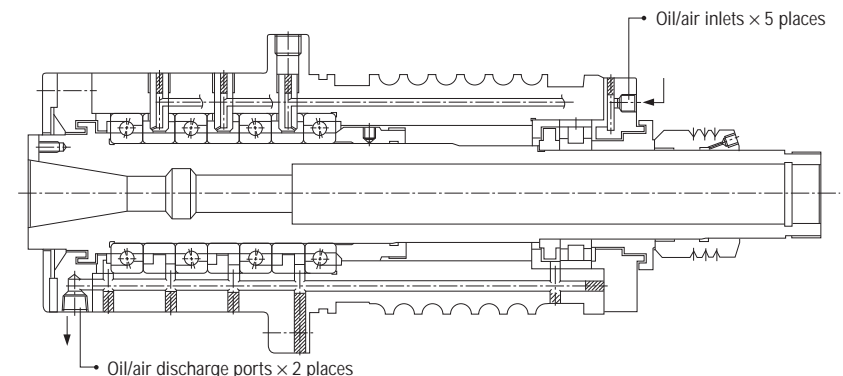

Fig. 12.10 Oil/Air Lubrication
- For these reasons, this method is used in the main spindles of machine tools and other high speed applications (Fig. 12.10).